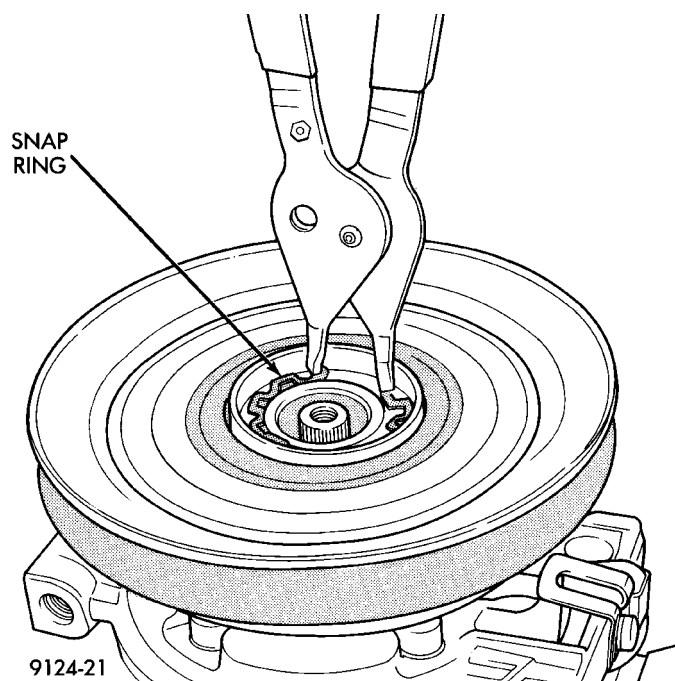

Fig. 25 Removing Pulley Snap Ring
(3) Remove pulley retaining snap ring with Snap Ring Pliers, and slide pulley assembly off of compressor (Fig. 25).